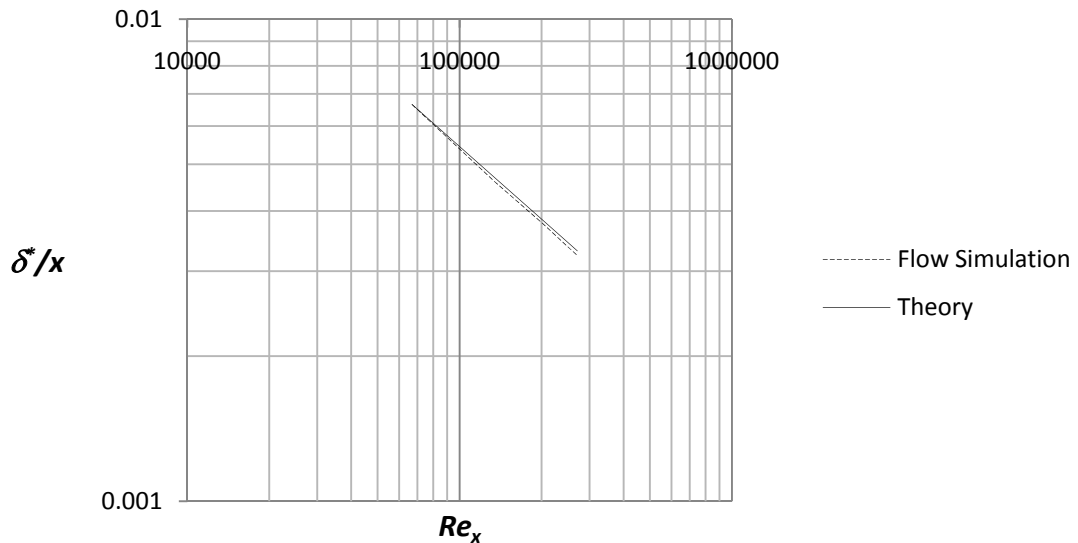

Figure 2.25c) Comparison between Flow Simulation and theory on displacement thickness
Place the file “xy-plot figure 2.25c)” into the **Local Disk (C:)/Program Files /SolidWorks (2)/SolidWorks Flow Simulation/lang/english/template/XY-Plots** folder to make it available in the **Template** list. Repeat step 24 and select the new template for the XY-plot as shown in figure 2.25c). Rename the xy-plot to **Displacement Thickness**.